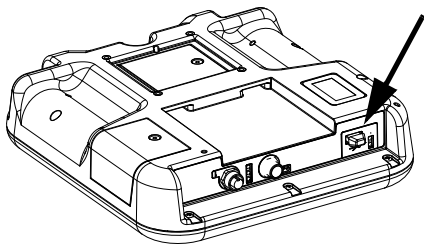

Fig. 47: ADM USB Port
1. Insert USB flash drive into USB port (BL). See FIG. 47 on page 66.
3. Remove USB flash drive from USB port (BL).